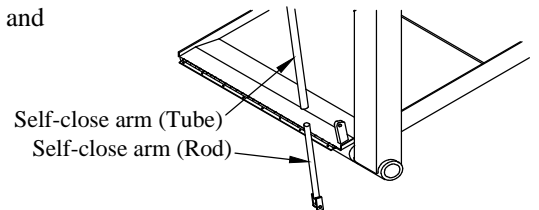

Figure 24: Self-close arm parts.
8. **Remove** the rod from the tube (Figure 24).